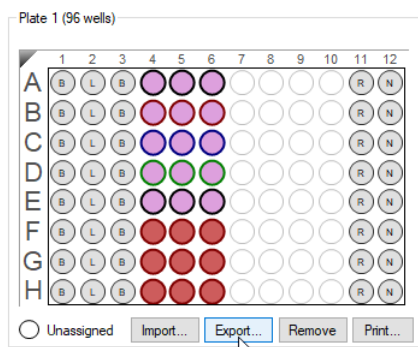

Figure 8-19: Sample Plate Map— Export Button
1. In the **Sample Plate Map**, click **Export** (see Figure 8-19).
1. In the Sample Plate Definition window (see Figure 8-19: on page 310), click **Import**.